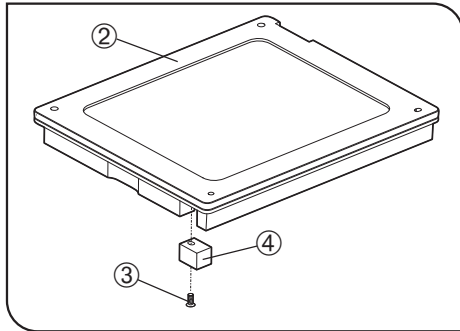

Fig. 2
2. Remove the cover ② of the incubator.
3. Remove the screw ③ by the allen wrench and remove the cap ④ provided on the side of the cover (Fig. 2).